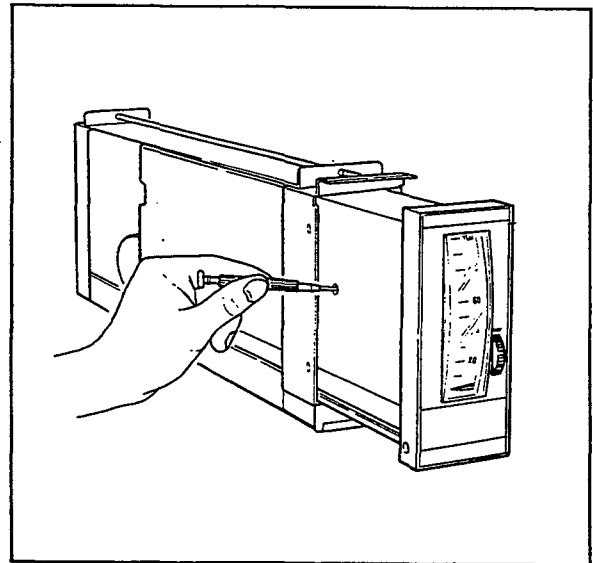

Figure 6-2. Measurement Input Indicator Zero Adjustment.
- (3) Precision resistor: 250Ω ±0.1% 1
- (4) Apply an input signal of 3V DC.
- (5) Adjust the zero point until the measurement pointer reads 50% (See Figure 6-2).
- (6) Repeat steps (1) and (2) and then steps (3) to (6) until the indicator reads within the specified accuracy.